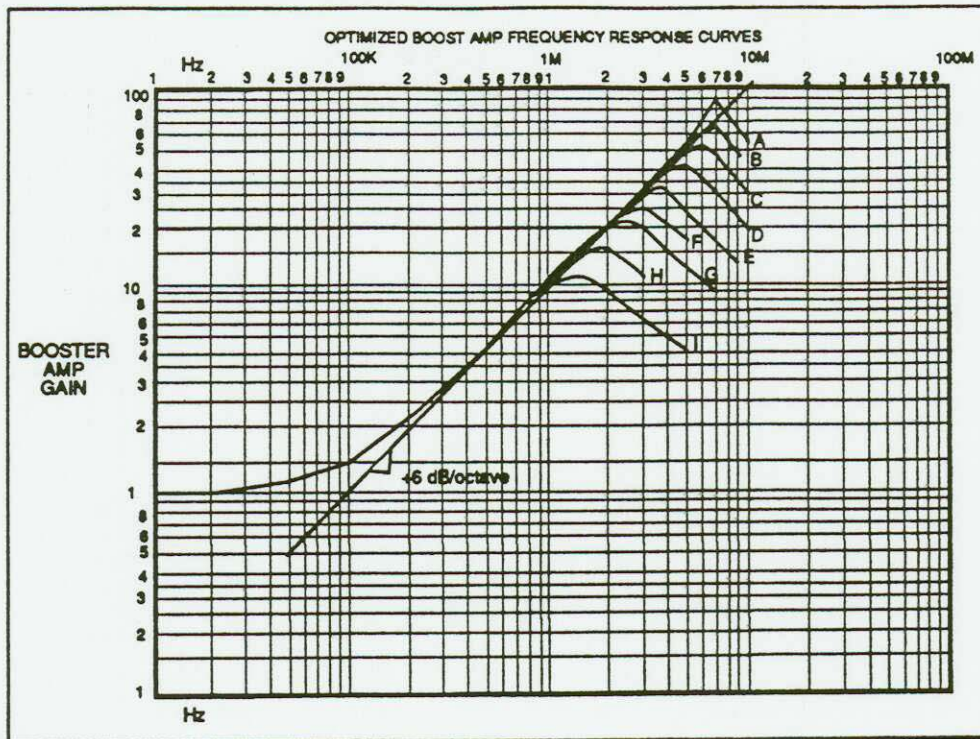

Figure 7
In most applications, AM-05M bandwidth will be controlled by the combined effect of TIA second pole,  $F_2$  Eq. (1) and boost amplifier roll-off, ( $F_B$ ) (figure 7). It is possible to use  $F_2$  alone to control bandwidth, if  $F_2 \ll 7$  MHz (boost amplifier curve A). The drawback to this is that the boost amp +6 dB/octave slope beyond the desired bandwidth, while contributing nothing to amplifier signal response, continues to boost the TIA noise gain.
For these circumstances, start with Eq. (6) to determine  $F_2$  and  $F_B$ . Use Eq. (1), (2), (3) to determine TIA component values, and figures 7 and 8 for boost amplifier components.